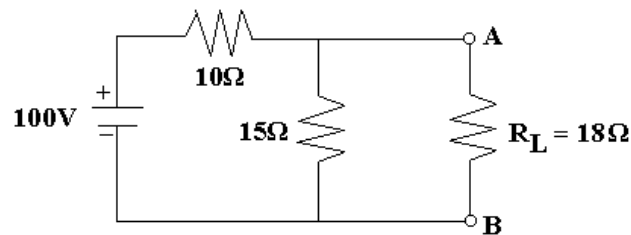

Fig.1
Q.33 For the circuit shown in Fig.1, find the current in the load resistance $R_L=18\Omega$ and the voltage across it by Norton's theorem and verify the result by applying Thevenin's Theorem. **(8)**